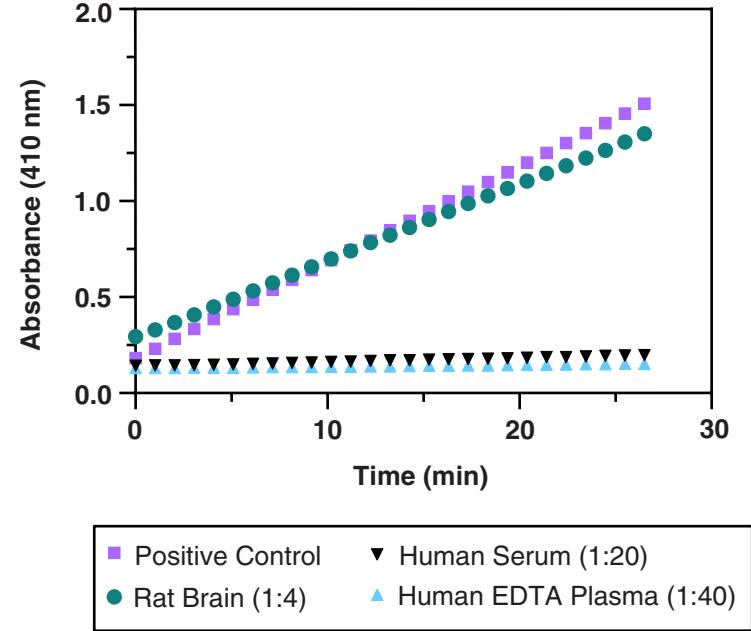

Figure 4. Activity of the AChE positive control and various samples
2. Determine the change in absorbance per minute (A_{410}/min) for each sample, positive control, and sample background well by plotting the absorbance values as a function of time to obtain the slope (rate) of the linear portion of the curve (see Figure 4, page 17, for examples of various sample types).